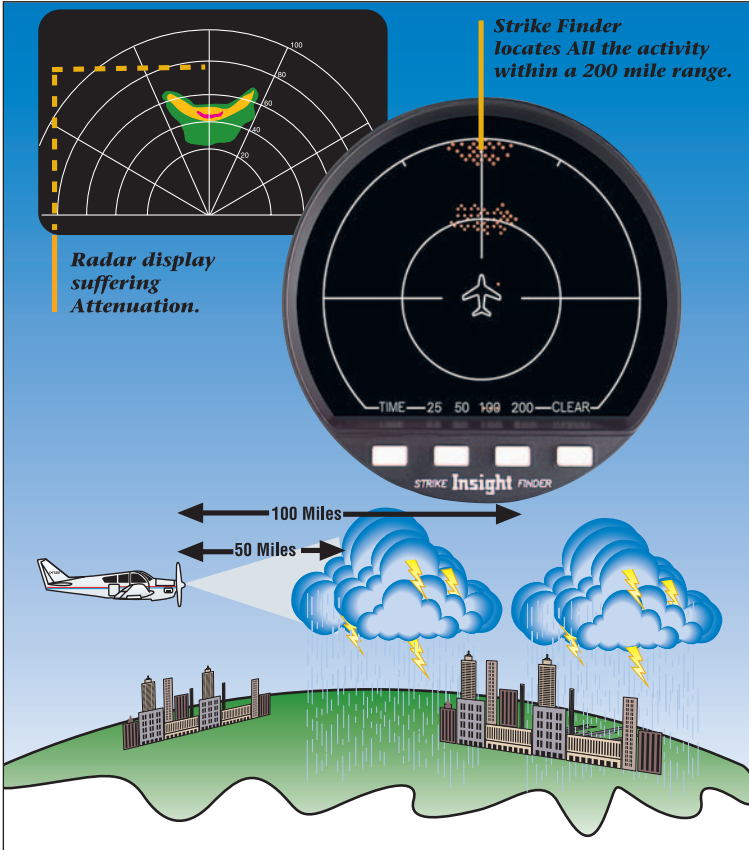

Figure 40. Radar Suffering Attenuation
- Attenuation is NOT a factor! Strike Finder shows ALL the activity, (see Figure 40, p.48).
This problem, called attenuation affects all radar, meaning heavy rain areas could scatter, or worse, totally block out the radar return from hazardous weather ahead, (see *Figure 40, p.48*).